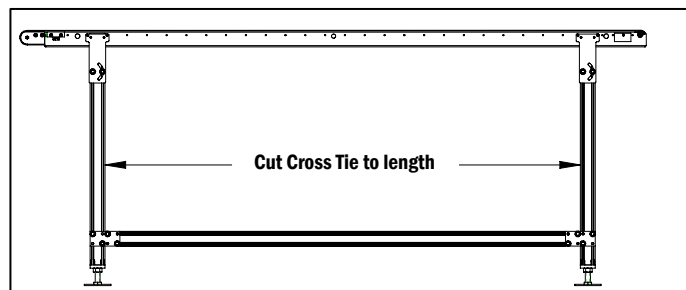

Figure 3
a. Measure the distance between the stands and cut the Cross Tie Extrusion to fit with a saw blade that is appropriate for Aluminum (**Figure 3**).